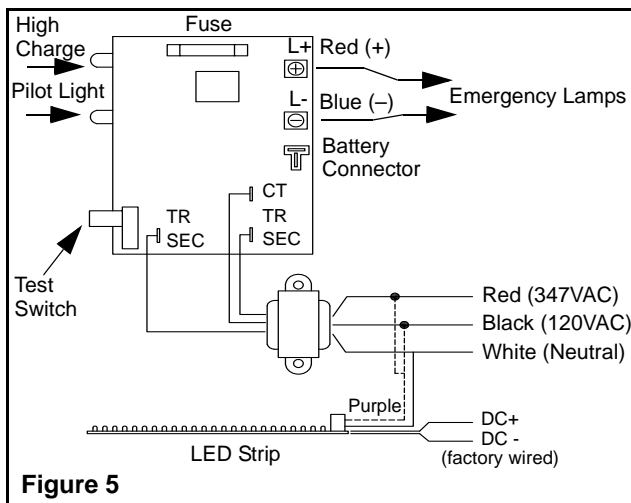

Figure 5
5. Make the proper connections: the unit accepts an input voltage of 120 or 347 VAC (see figure5).